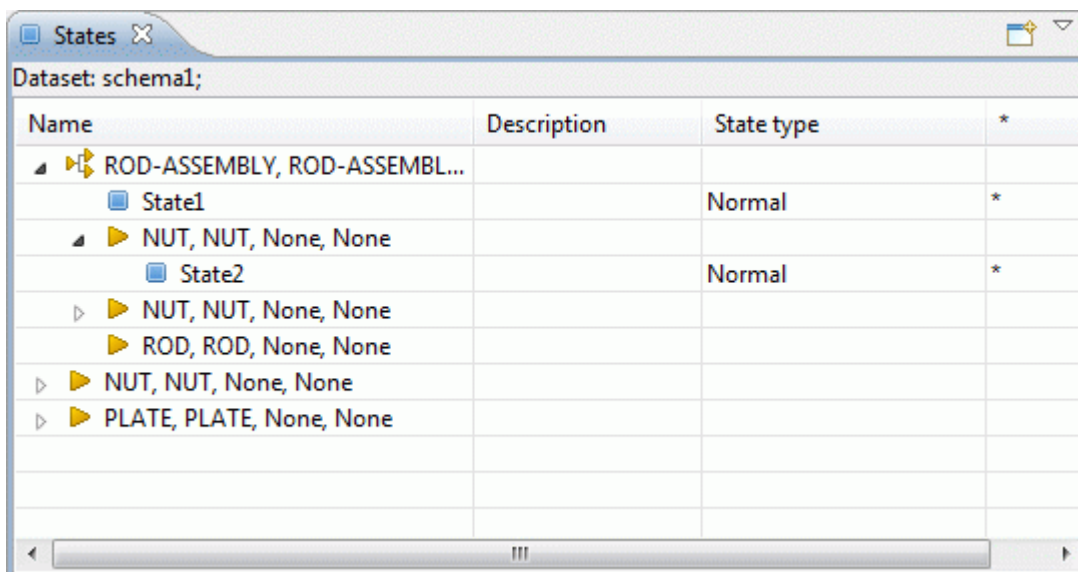

Figure 1. The tree with assembly components with their own states (State 1 and State 2)
- First of all there should exist a tree of assembly components with their own states (see Figure 1).
- Select a lower level ☐ state in the tree (e.g. 'State 2' in Figure 1).
- Drag it and drop on the higher level ☐ state (e.g. 'State 1' in Figure 1). The lower level state becomes a sub state of the higher level state (see Figure 2).